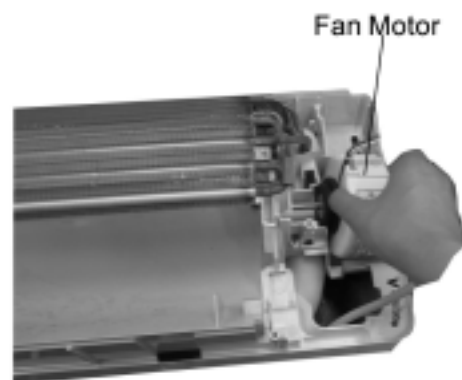

Fig 10
7. Remove the fan motor. (Fig 10)